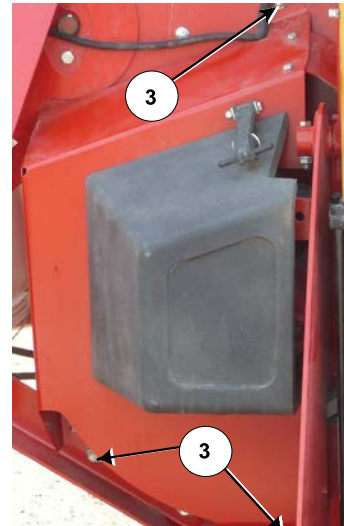

Figure 31: Install the Left Shield
26. Install the left rear shield, see *Figure 31*.
- Fasten with 3 of 3/8" x 1" carriage bolts and flange locknuts (3).